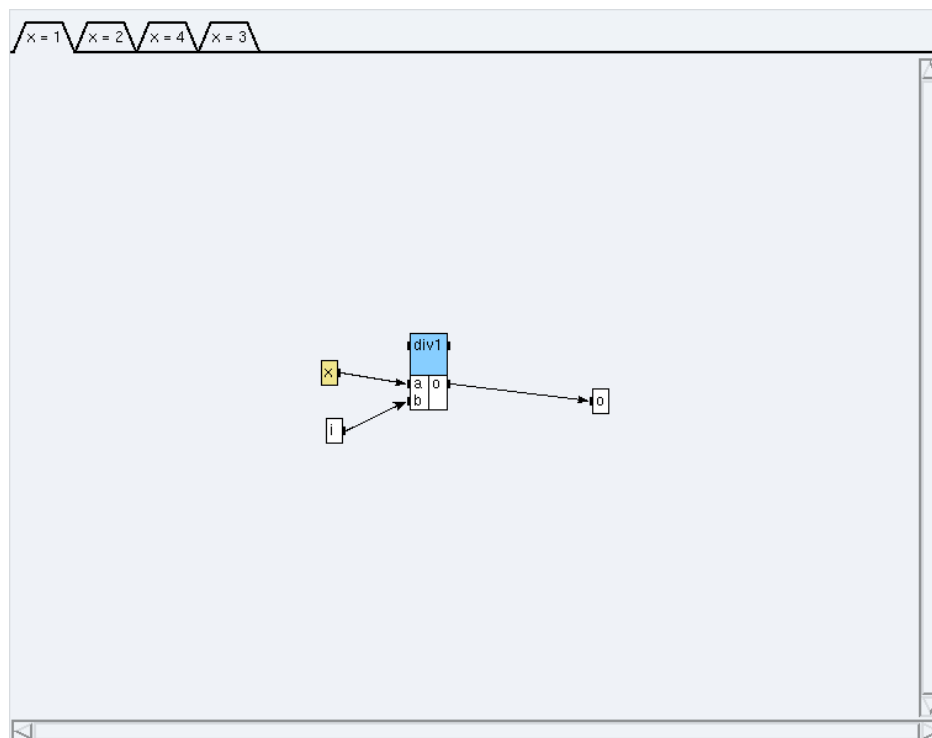

Figure 5.2: Condition $x=1$
- * click on the condition **`x=1`** (*cf.* figure 5.2) and create a reference `div1<1>` to the definition `int/Arit_div`,